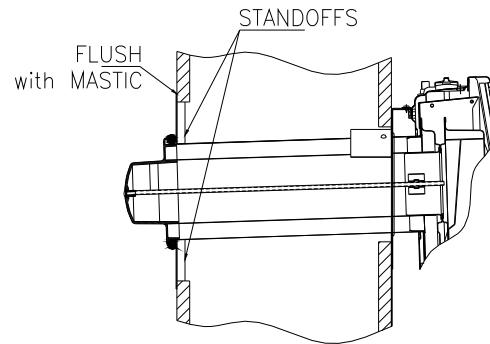

Figure 17
3. The hole at the outside of the wall must be a square of 11 1/2" (290 mm) x 11 1/2" (290 mm). (See figure 17).
5. Slide pipes (B) and (C) through the hole in the wall, and connect them to the appliance flue outlet and air intake, respectively.
6. The outdoor mounting plate and the silicon-rubber ring should be installed between the vent cap and the exterior wall. The plate must be positioned flush to the wall and with its standoffs inserted into the wall and sealed with a non-hardening mastic (silicone caulk). (See figure 17).
7. Before attaching the vent cap to the exterior wall, run a bead of non-hardening mastic (silicone caulk) around its outside edge, so as to make a seal between it and the plate. (See figure 17).